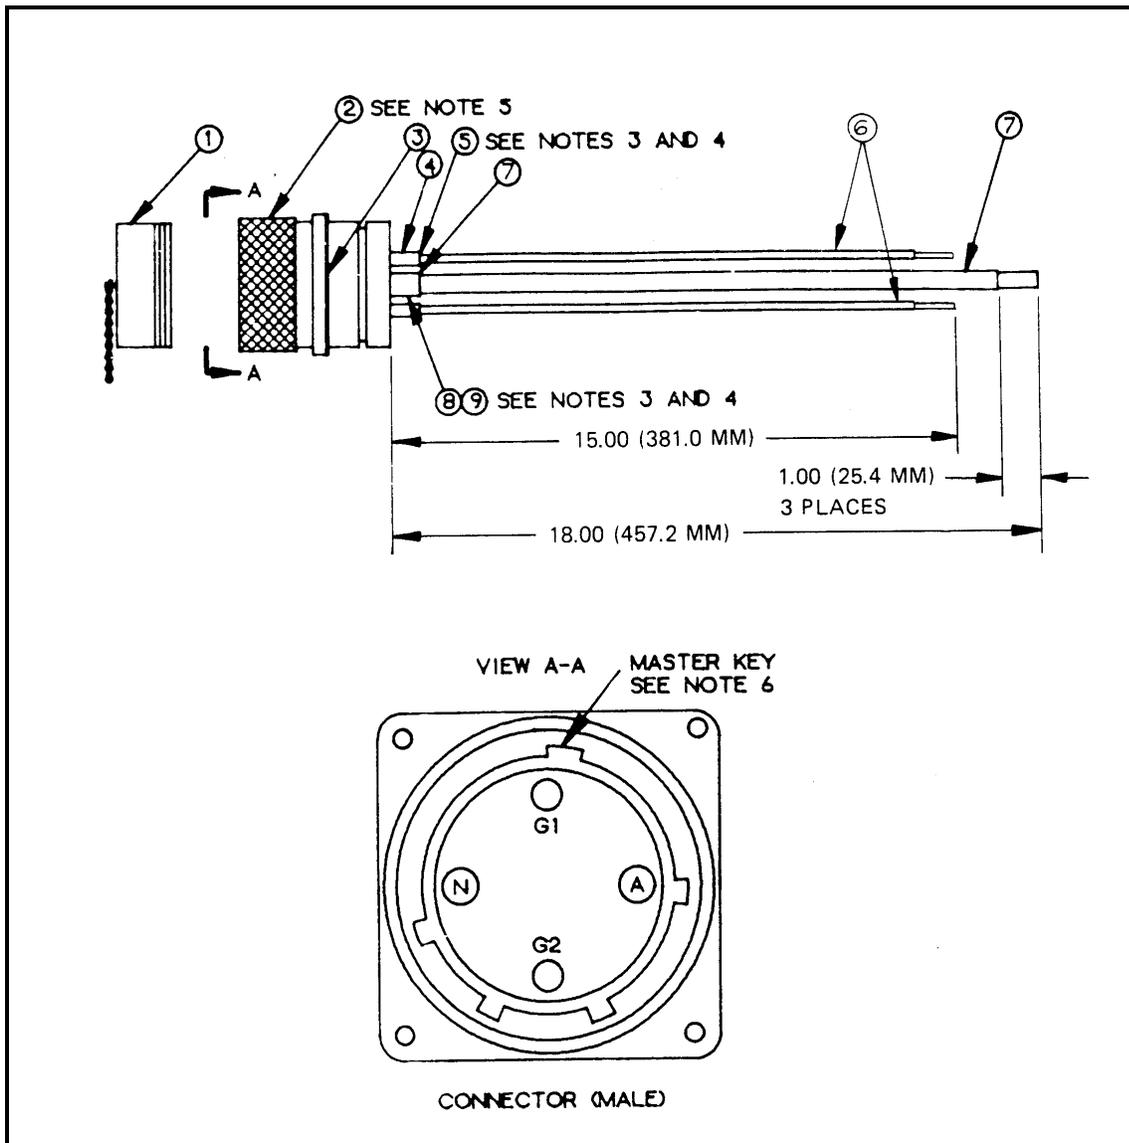

Figure F-31. M60 A/P (PDISE), 60-Amp, Input Connector, (J1)
F-31 M60 A/P (PDISE), 60-Amp, Input Connector, (J1)**Component Legend for Figure F-31**
c. Electrical connector (Figure F-31, Item 2) is furnished with the following: